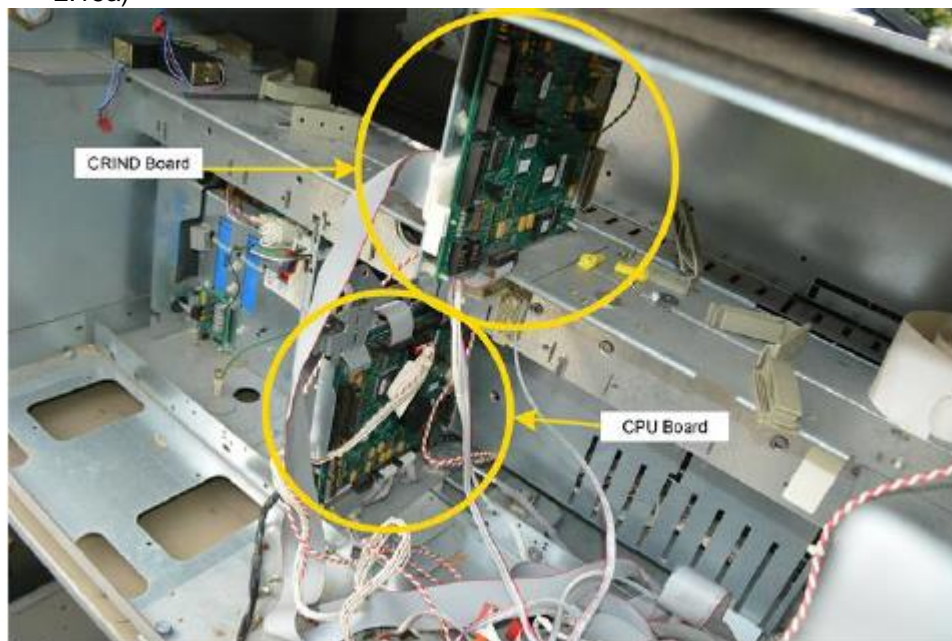

Fig 2.15a – Location of the CRIND Control Node and CPU Board
- a. Identify the CRIND Control Node located on the upper electronics rail inside of the electronics cavity, and the CPU Board located in the center of the electronics cabinet. (Fig 2.15a)